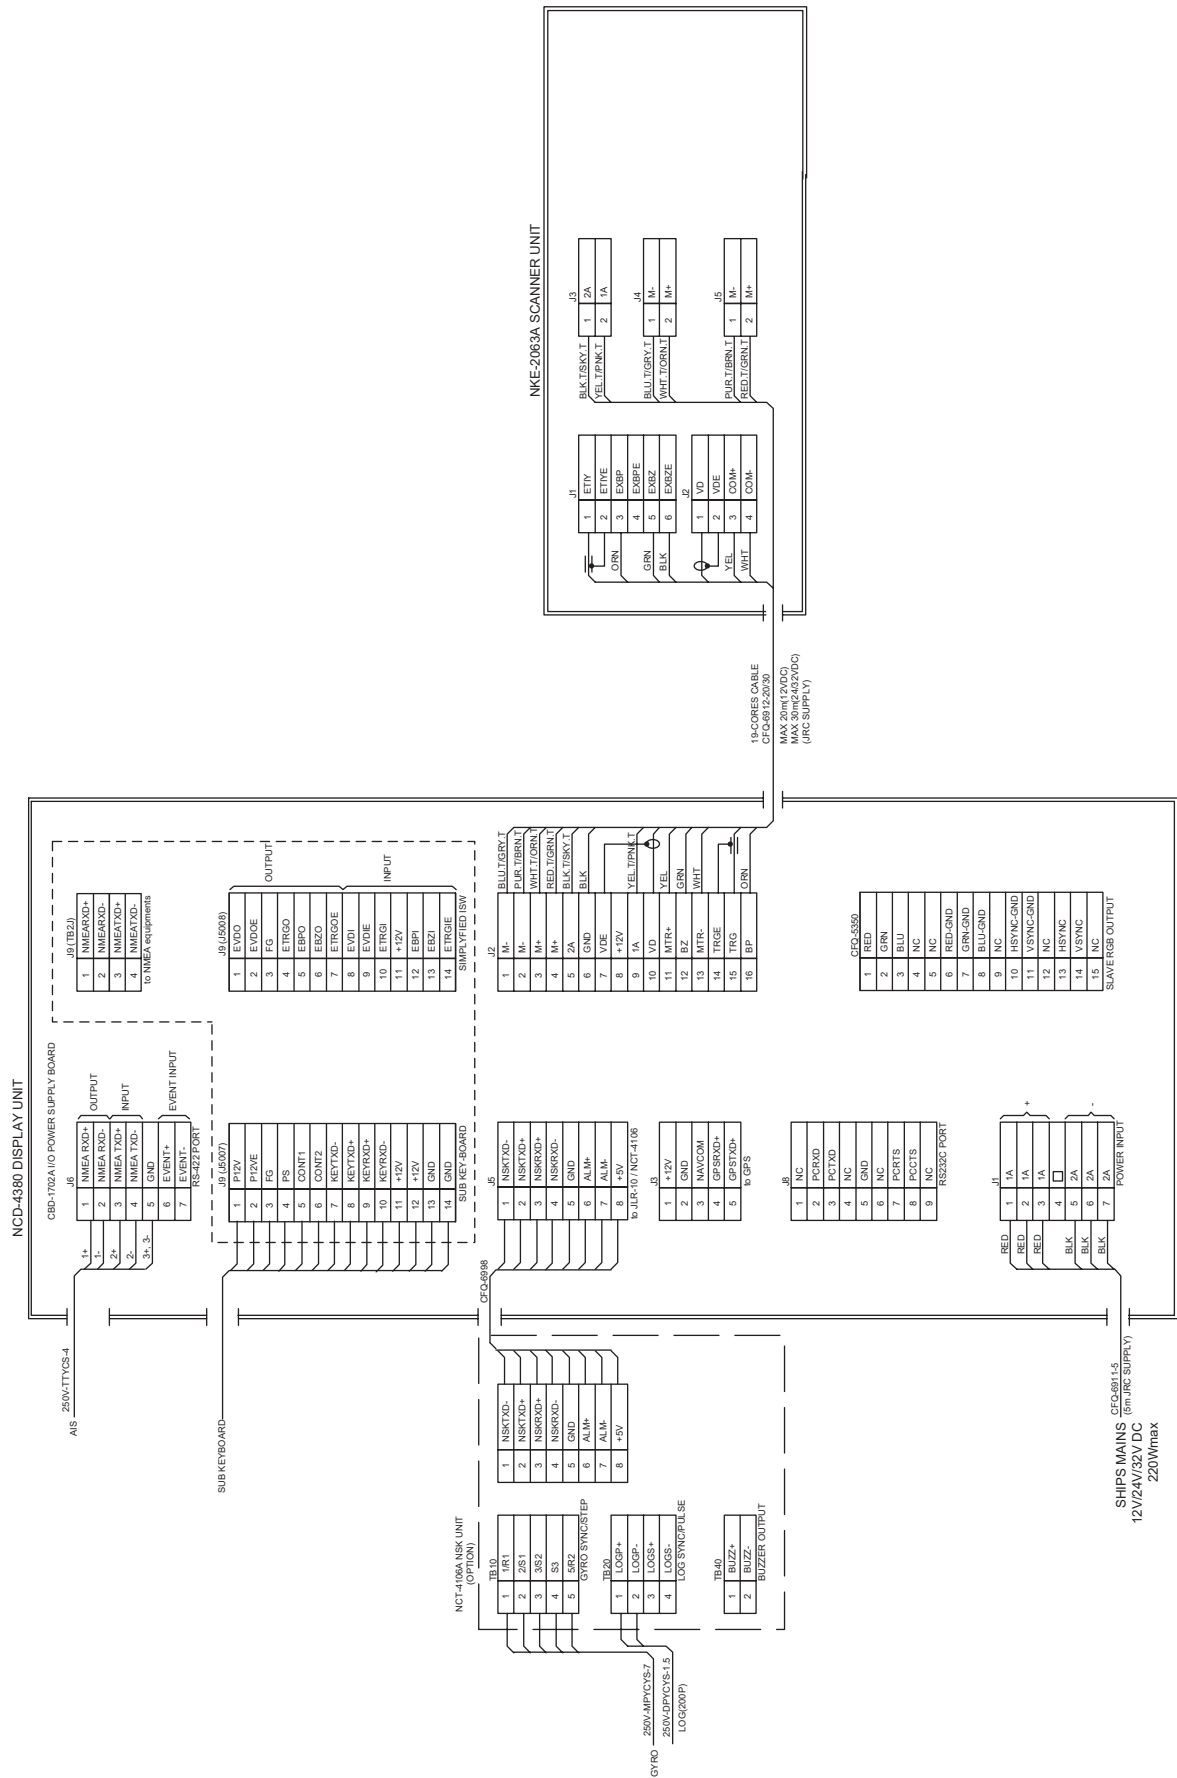

Figure 4 JMA-5209 Inter-connection Diagram
- FIGURE 4 JMA-5209 INTER-CONNECTION DIAGRAM